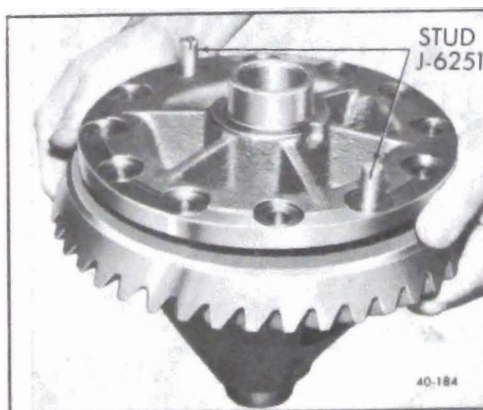

Figure 40-169 Installing Ring Gear on Differential Case
1. If ring gear was removed, install ring gear on case flange using studs as shown in Figure 40-169.